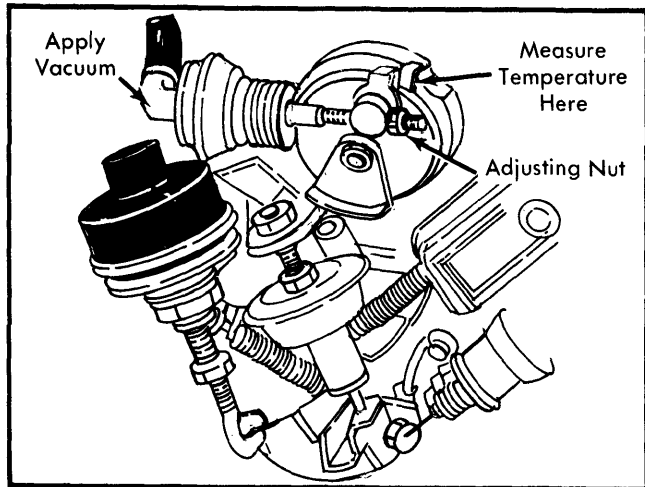
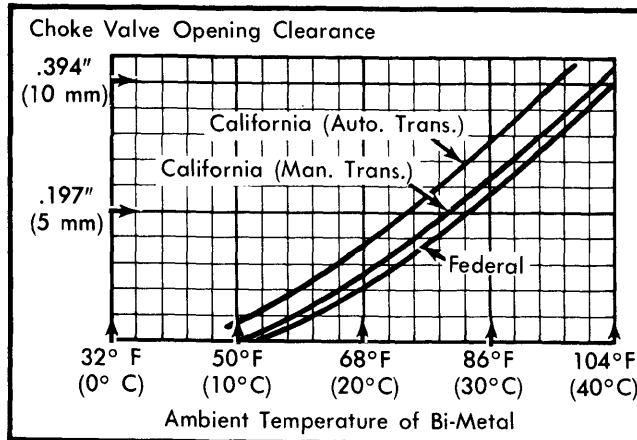

Fig. 4 Adjusting Choke Valve Opening Angle
Fig. 5 Determining Choke Valve Opening Clearance Based on Bi-Metal Ambient Temperature
Disconnect vacuum sensing tube from vacuum diaphragm. Pull choke lever link out fully and hold in place. Apply approximately 19.7 in. Hg vacuum. Check clearance between choke valve and inward wall of choke bore. See Fig. 4. Measure temperature around bi-metal cover and compare clearance with chart in Fig. 5. If not to specifications, adjust by turning adjusting nut on end of vacuum diaphragm shaft at bi-metal housing.
① - Manufacturer does not supply fast idle speed. See Choke Linkage (Fast Idle Opening Angle).
② - Varies with ambient temperature. See Fig. 5.